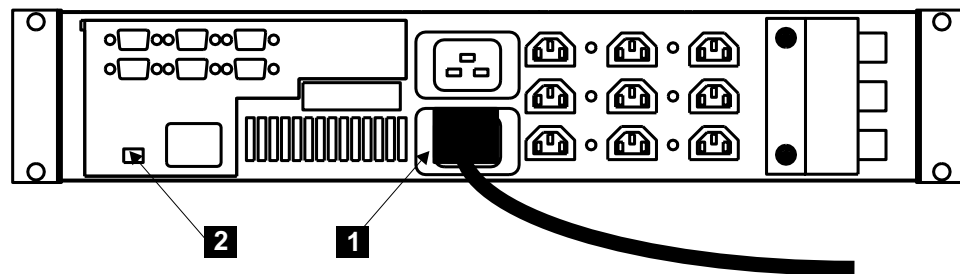

Figure 109. Installing the uninterruptible power supply power cable
11. At the back of the uninterruptible power supply, plug the uninterruptible power supply main power cable into the power socket **1** (see Figure 109).